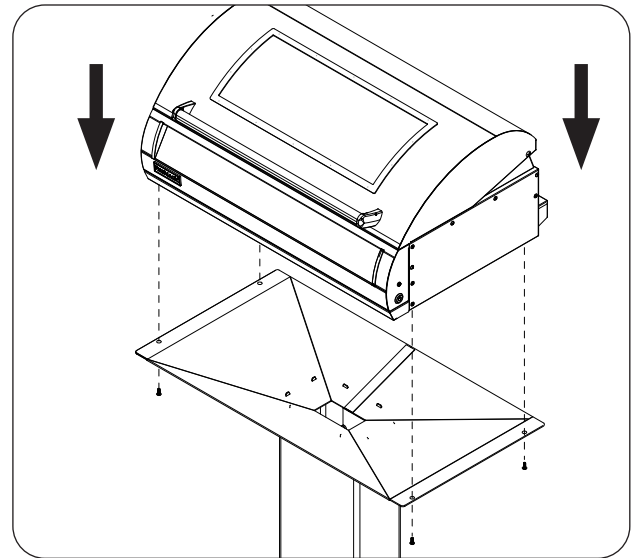

Fig. 29-1 Fasten grill to post base assembly
2. Carefully place and align the electric grill onto the top of the post assembly. Fasten the electric grill to the post base assembly using the 4 included Phillips-head screws. See Fig. 29-1.